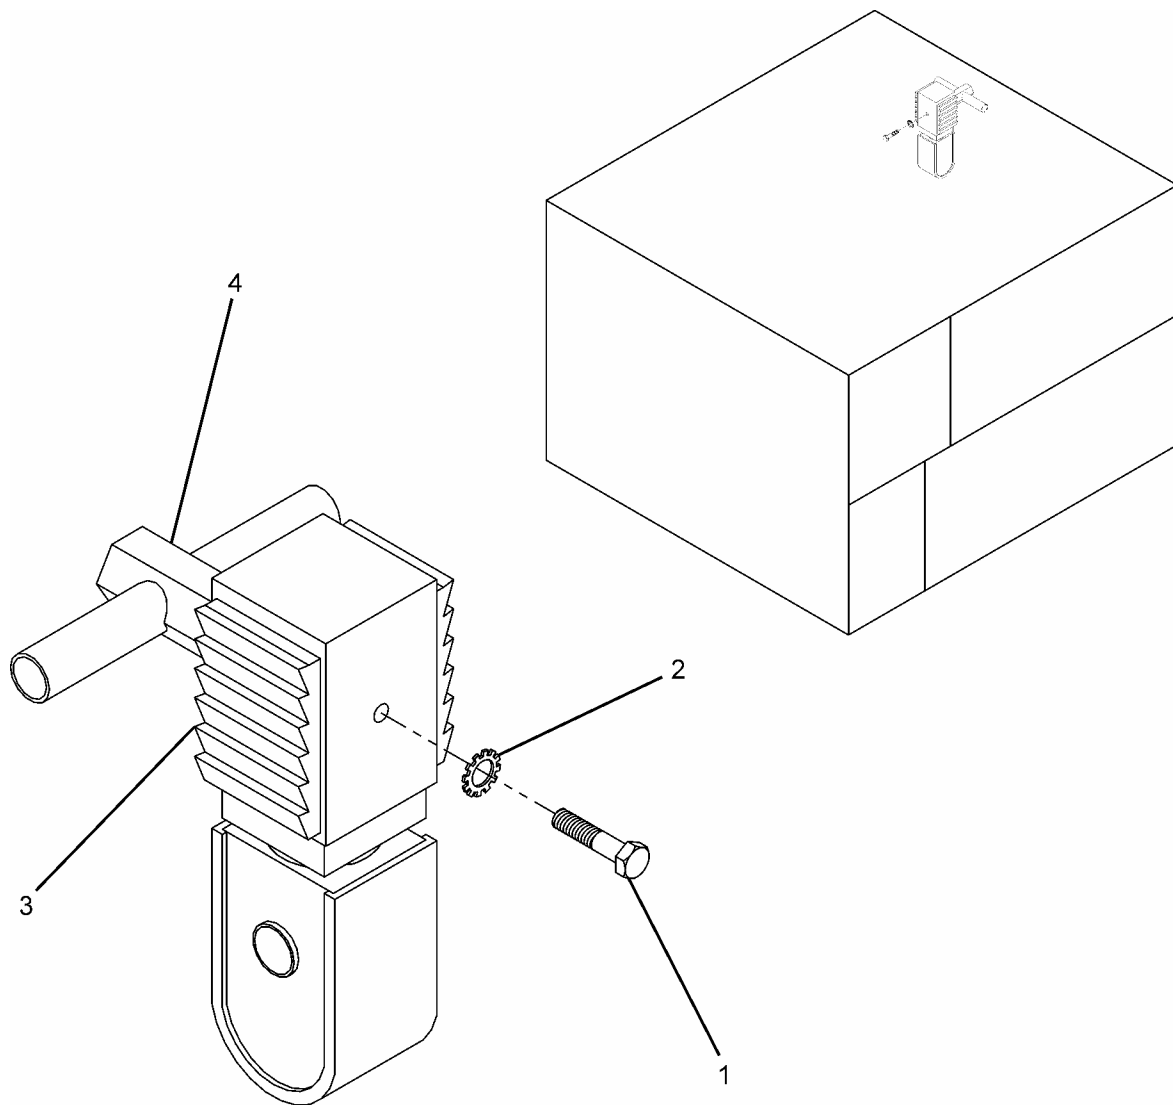

Figure 1. Solenoid Valve Coil
1. Tag and disconnect wires connected for solenoid valve coil (3). See figure 1.
2. Remove screw (1) and star washer (2).
3. Slide solenoid coil (3) off stem of solenoid valve (4).